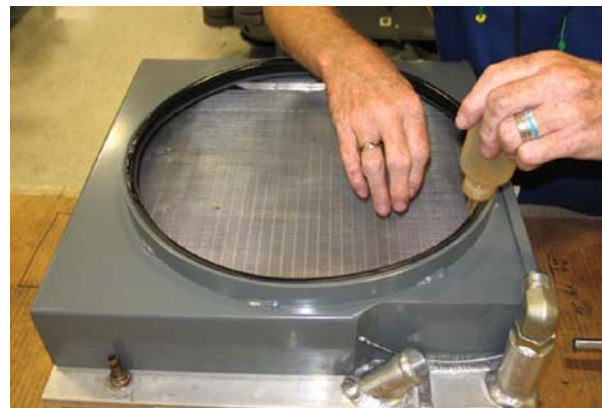

FIG. 10
32. Apply a light coat of oil onto the seal (63). (Fig. 10)